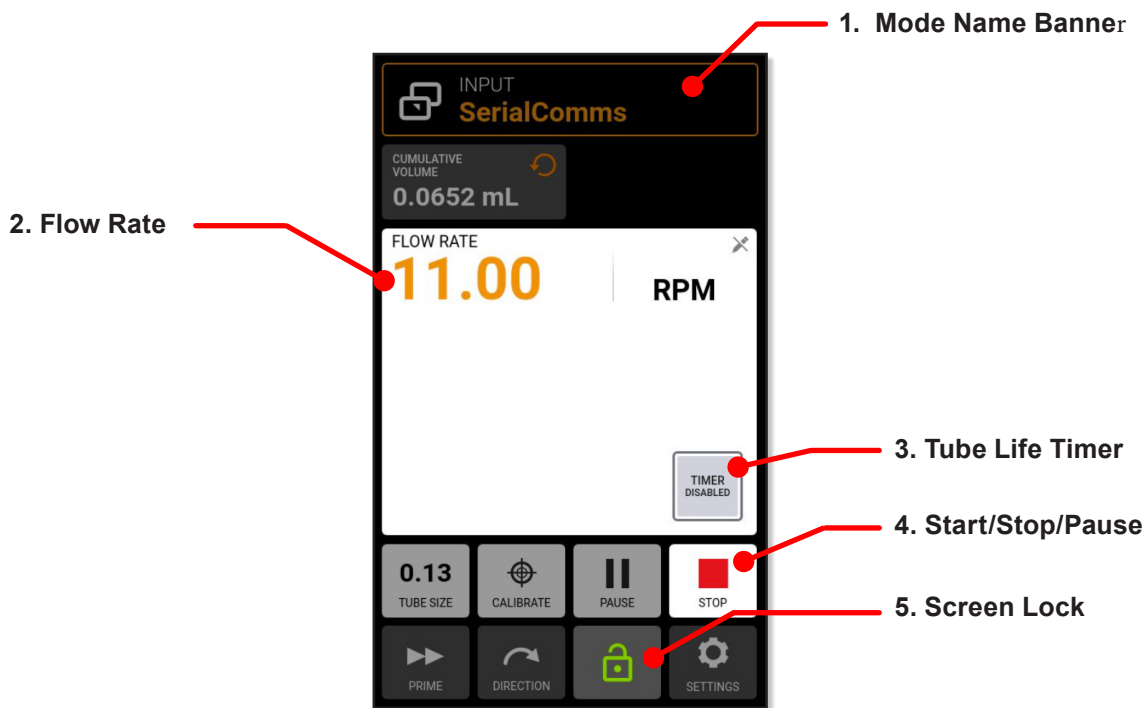

Figure 14: SerialComms Run
1. **Mode Name Banner.** Displays currently selected input type (see Figure 14 above).